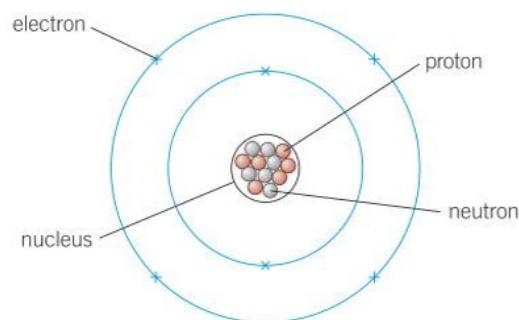

Figure 1 An atom of carbon
- Look at Figure 1. Which isotope of carbon is shown? [1 mark]